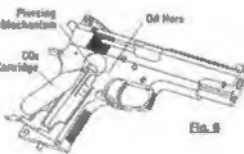

Fig. 6
- With the grip cover removed and the piercing lever in the open position (See Step 3A) insert a new CO₂ cartridge with the neck of the cartridge pointing toward the piercing mechanism. (Fig. 6)
- With the grip cover removed and the piercing lever in the open position, insert a new CO₂ cartridge with the neck of the cartridge pointing toward the piercing mechanism. (Fig. 6)
- Your air pistol will work best if you oil it every 250 shots. Put a drop of Crosman 0241 Lubricating Oil directly on the tip of a CO₂ cartridge before inserting (See Fig. 6) and on the piercing adjustment screw (See Fig. 5). (Crosman 0241 Lubricating Oil is best, but any light household oil is better than none.) Do not over-oil as this can cause damage to your air pistol.